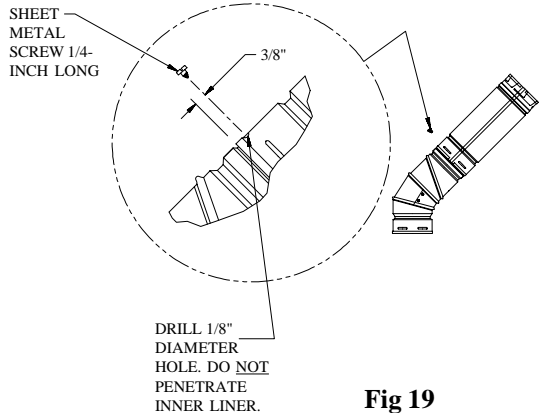

Fig 19
2. **Connections.** In addition to twist locking the elbows, the connection may be further secured by using sheet metal screws at the joint where the male and female parts overlap, provided that the screws **do not** penetrate the inner liner as shown in Figure 19. One screw per joint is normally sufficient. Use #8 Pan Head sheet metal screws which are no longer than 1/4 inch. Liberal use of **Wall Straps** for additional support is recommended. Do not allow the weight of the offsetting pipe to bear down on lower elbow.